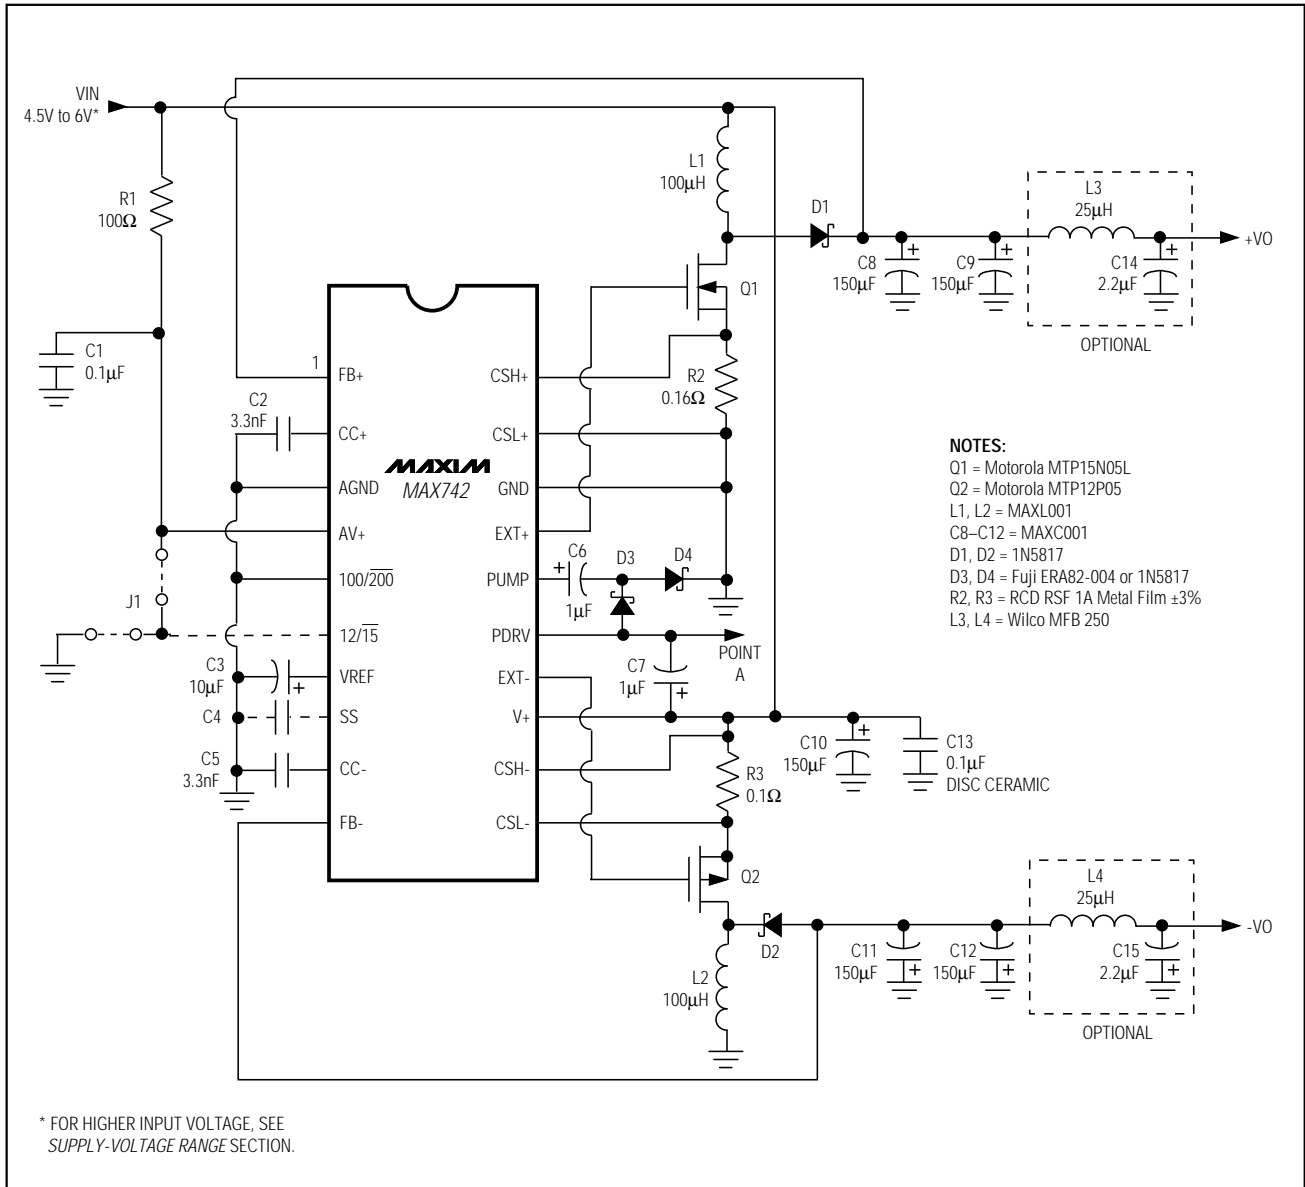

Figure 2. Standard 6W Application Circuit
(Circuit of Figure 2, V+ = 5V, 100/200 = 12/15 = 0V; TA = TMIN to TMAX, unless otherwise noted.)
**Note 1:** Devices are 100% tested to these limits under 0mA to 100mA and to 125mA conditions using automatic test equipment. The ability to drive loads up to 1A is guaranteed by the current-limit threshold, output swing, and the output current source/sink tests. See Figures 2 and 3.
**Note 2:** Actual load capability of the circuit of Figure 2 is ±200mA in ±15V mode and ±250mA in ±12V mode. Load regulation is tested at lower limits due to test equipment limitations.
**Note 4:** Measured at Point A, circuit of Figure 2, with PDRV disconnected.
(Circuit of Figure 2,  $V_+ = 5V$ ,  $T_A = +25^\circ C$ , unless otherwise noted.)
(Circuit of Figure 2,  $I_{LOAD} = 100mA$ , unless otherwise noted.)
The MAX742 oscillator frequency is generated without external components and can be set at 100kHz or 200kHz by pin strapping. Operating the device at 100kHz results in lower supply current and improved efficiency, particularly with light loads. However, component stresses increase and noise becomes more difficult to filter. For a given inductor value, the lower operating frequency results in slightly higher peak currents in the inductor and switch transistor (see *Typical Operating Characteristics*, Peak Inductor Current vs. Load Current graph). When the lower frequency is used in conjunction with an LC-type output filter (optional components in Figure 2), larger component values are required for equivalent filtering.
The charge-pump (PUMP) output is a rail-to-rail square wave at half the oscillator frequency. The square wave drives an external diode-capacitor circuit to generate a negative DC voltage (Point A in Figure 2), which in turn biases the inverting-output drive stage via PDRV. The charge pump thus increases the gate-source voltage applied to the external P-channel FET. The low on-resistance resulting from increased gate drive ensures high efficiency and guarantees start-up under heavy loads. If a -5V to -8V supply is already available, it can be tied directly to PDRV and all of the charge-pump components removed. For input voltages greater than 8V, ground PDRV to prevent overvoltage. Observe PDRV absolute maximum ratings.
Figure 2's circuit has been tested at all extremes of line, load, and temperature. Refer to the *Electrical Characteristics* table for guaranteed in-circuit specifications. Successful use of this circuit requires no component calculations.
The 6W supply (Figure 2) generates ±200mA at ±15V, or ±250mA at ±12V. Output capability is increased to 10W or more by heatsinking the power FETs, using cores with higher current capability (such as Gowanda #050AT1003), and using higher filter capacitance.
Ripple is directly proportional to filter capacitor equivalent series resistance (ESR). In addition, about 250mV transient noise occurs at the LX switch transitions. A very short scope probe ground lead or a shielded enclosure is need for making accurate measurements of transient noise. Extra filtering, as shown in Figure 2, reduces both noise components.